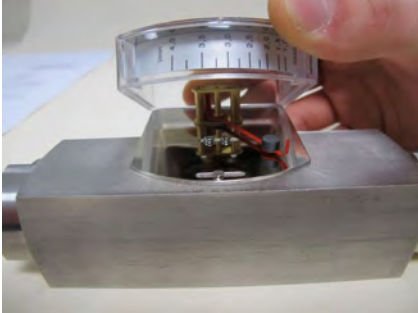

Fig. 38
2. ➔ Carefully remove the display housing cover plate and plastic housing from the display base plate by lifting straight up. (Fig. 38) Take care not to damage the pointer mechanism.